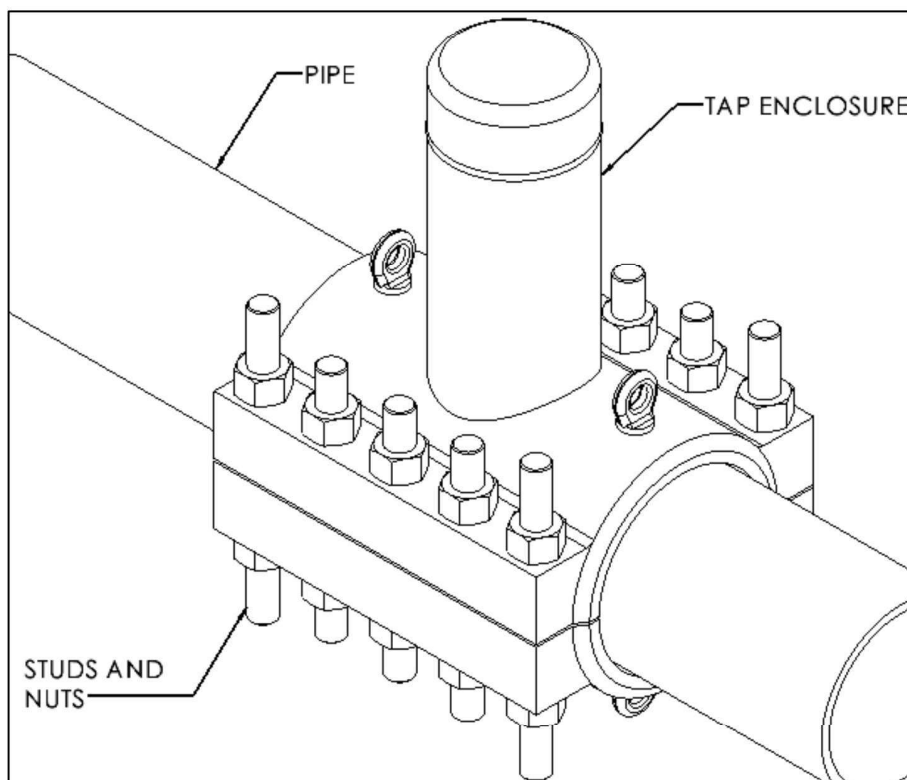
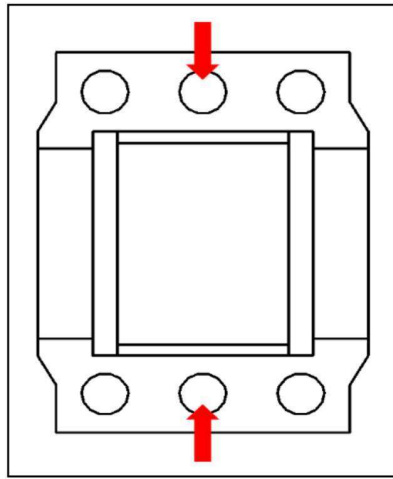
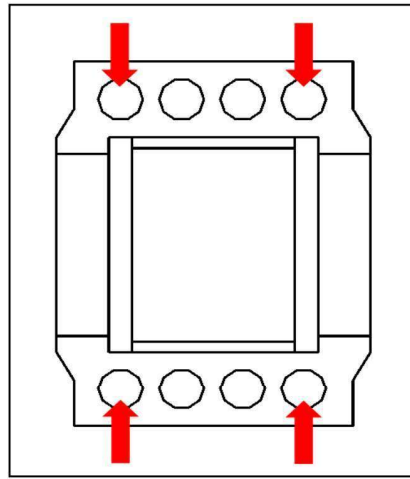

Figure 5
Figure 6
Figure 7
5. Install the studs and nuts through the holes in the Tap+Enclosure as shown in Figure 5. Most Tap+Enclosures will have two different stud lengths. The longer studs are used to help draw the fitting together. Make sure the longer studs are in the proper bolt holes. PLIDCO Tap+Enclosures with 3 holes per side should have the longer studs in the two center holes as shown in Figure 6. Tap+Enclosures with more than 3 holes per side should have the longer studs in the four corner holes as shown in Figure 7.